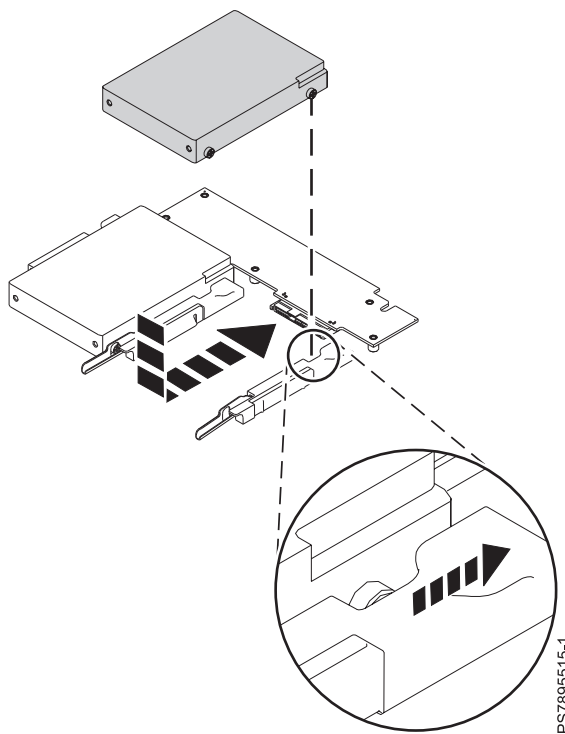

Figure 9. Installing a hard disk drive
Figure 9 shows how to install the hard disk drive.
6. Place the drive into the drive tray and push it toward the rear of the compute node, as indicated in Figure 9 on page 37. When the drive moves past the lever at the front of the tray, it snaps in place.